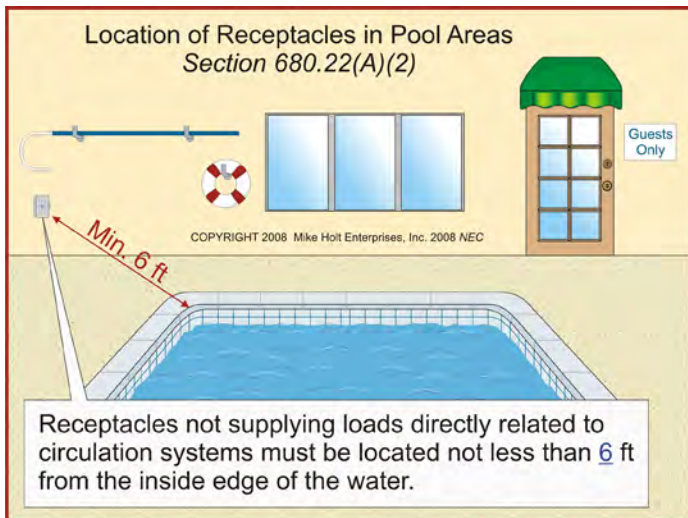

Figure 680-14
(2) Other Receptacles. Receptacles not for motors or other loads directly related to the circulation system must be not less than 6 ft from the inside walls of a permanently installed pool, outdoor spa, or outdoor hot tub. **Figure 680-14**